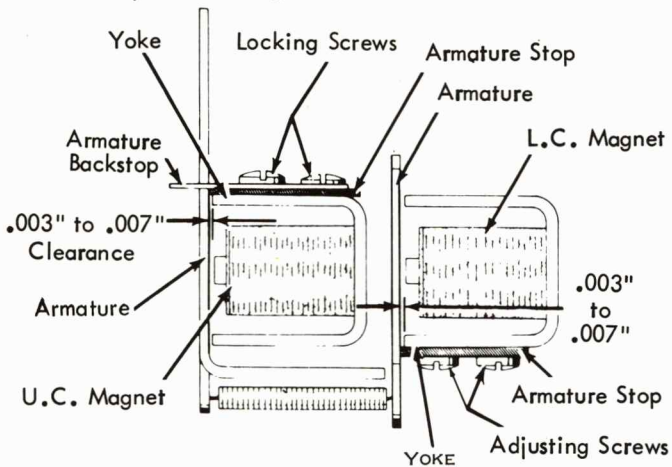

FIGURE 35. Armature Stops
2. Armature Stops (Fig. 35) - Position the armature stops, with the armatures manually attracted, to obtain .003" to .007" between the armatures and yokes.